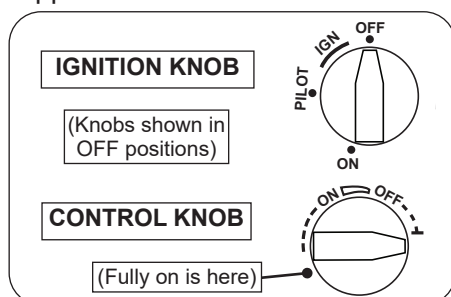

Fig. 23-1 Ignition and control knobs
2. Locate the valve on the unit. Push in the ignition knob slightly and turn clockwise ↻ to **OFF** (see Fig. 23-1).
5. While still holding the knob in, turn the knob counterclockwise ↺ to **PILOT** until you hear a click (piezo igniter will activate and light pilot). Continue to hold the knob in for about one (1) minute after the pilot is lit. Release the knob and it will pop back out. The pilot will remain lit. See Fig. 23-1 and 23-2. If it goes out, repeat steps 2-5.
1. Ensure the pilot is burning. Turn the ignition knob counterclockwise ↺ to **ON** (see Fig. 23-1).
2. Turn the control knob counterclockwise ↺ to the fully ON position to ignite the burner (see Fig. 23-1). The valve will open and the burner will light.
To shut down the main burner (pilot will remain lit), turn the control knob clockwise ↻ to the fully OFF position (see Fig. 23-1).
To shut down the burner and pilot (total shutdown), turn the control knob clockwise ↻ to the fully OFF position, and push in the ignition knob slightly and turn clockwise ↻ to **OFF** (see Fig. 23-1).